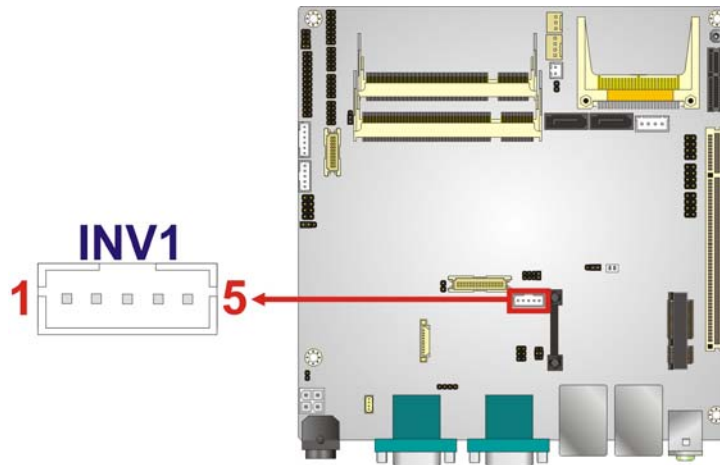

Figure 3-13: LVDS1 Backlight Inverter Connector Location
- CN Location:** See **Figure 3-13**
CN Location:	See Figure 3-13